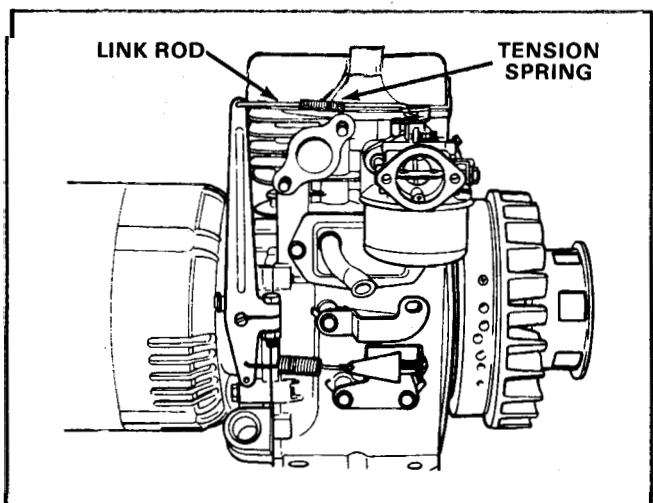

Figure 20
3. Connect the governor link rod. See Figure 20.